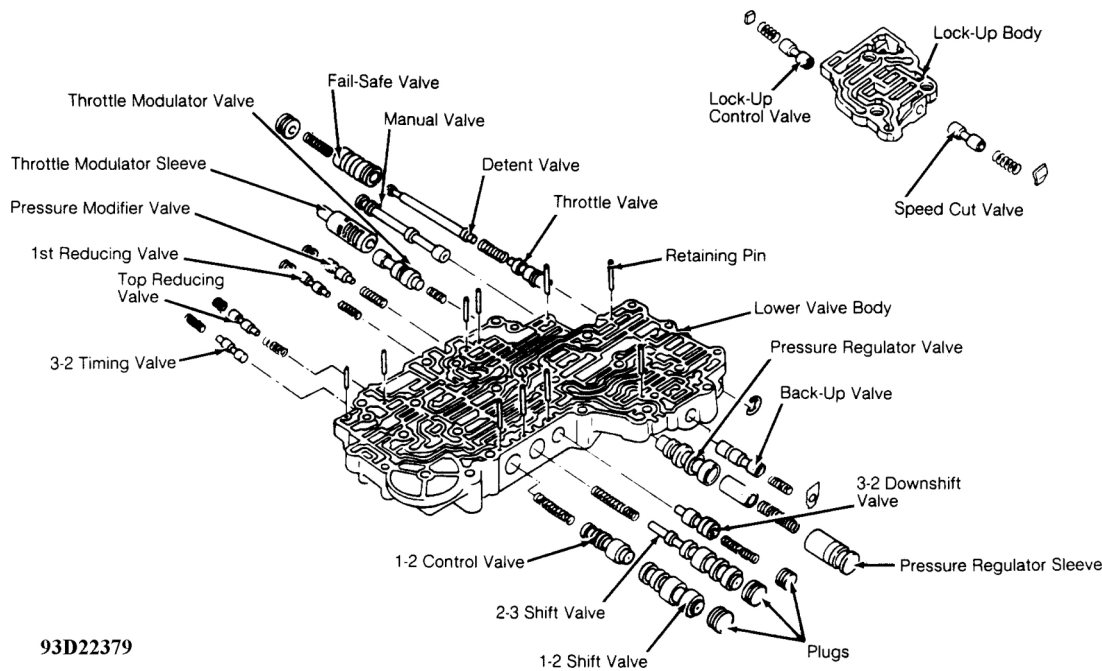

Fig. 19: Exploded View Of Lower Control Valve Body Assembly
3. Using wire, push out retaining pins from 3-2 timing valve side of lower valve body. See **Fig. 19** . Remove valve body plugs. Remove fail-safe valve, detent valve, throttle valve, throttle modulator valve, and spring guide.